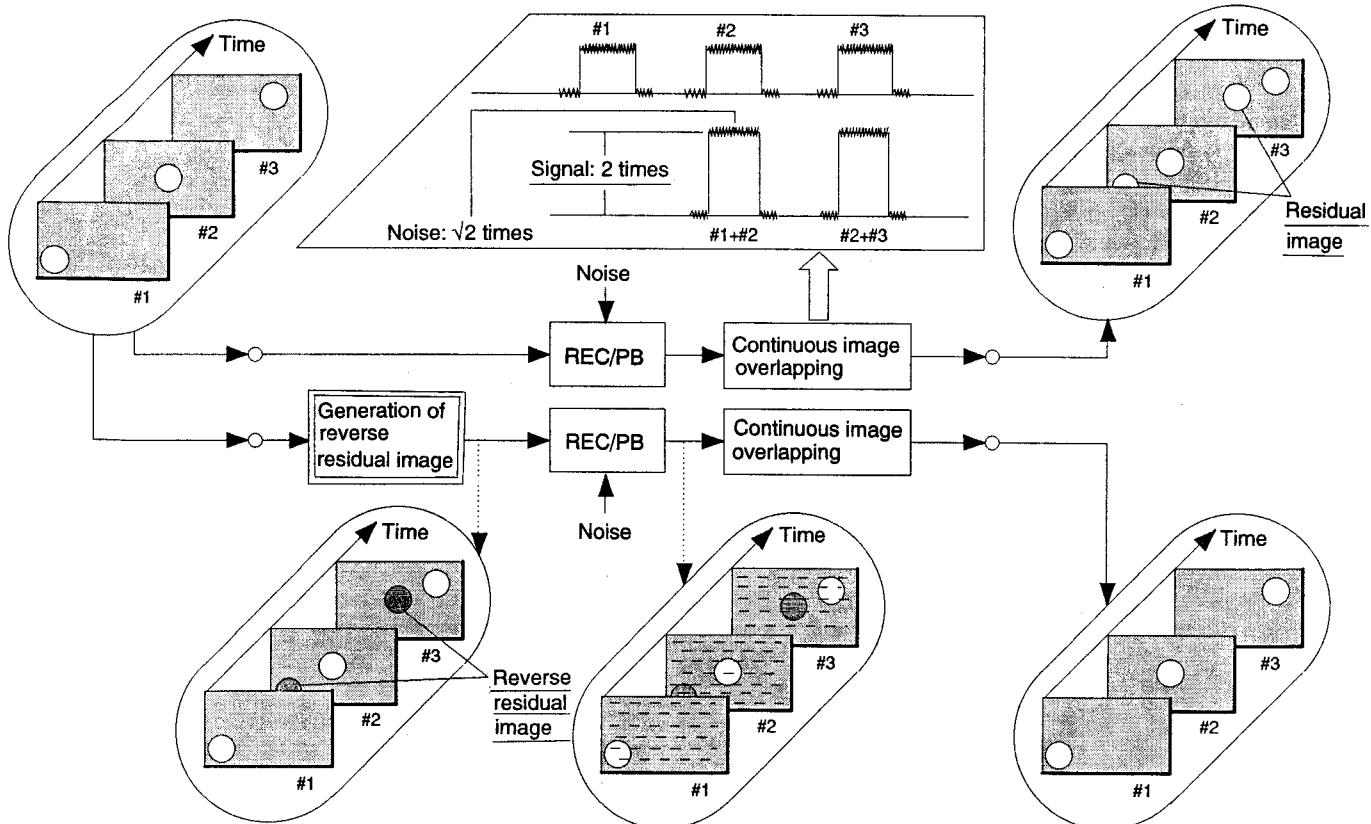

Figure 7-4-8 Conceptual Diagram for Temporal Emphasis
In conventional playback time axis direction noise reduction technology, there is a tendency for unnaturalness to occur for movement and various technological steps are taken to suppress this side effect, but this problem as well is solved at the level of basic principle with temporal emphasis through the complementary recording and playback operations. Figure 7-4-8 shows the general concepts of temporal emphasis. Temporal emphasis is basically a travelling type of noise reduction (NR) that utilizes the picture frame interrelationship. Since this noise reduction can suppress the low frequency noise and contour noise, which are most easily perceived, it provides a wonderful effect when combined with emphasis suppressing horizontal and vertical hi-frequency noise.
As Figure 7-4-8 shows, this form of temporal emphasis makes a reverse after image ahead of time for moving sections, records it, and uses it to cancel the after image that should be generated by playback noise reduction processing.